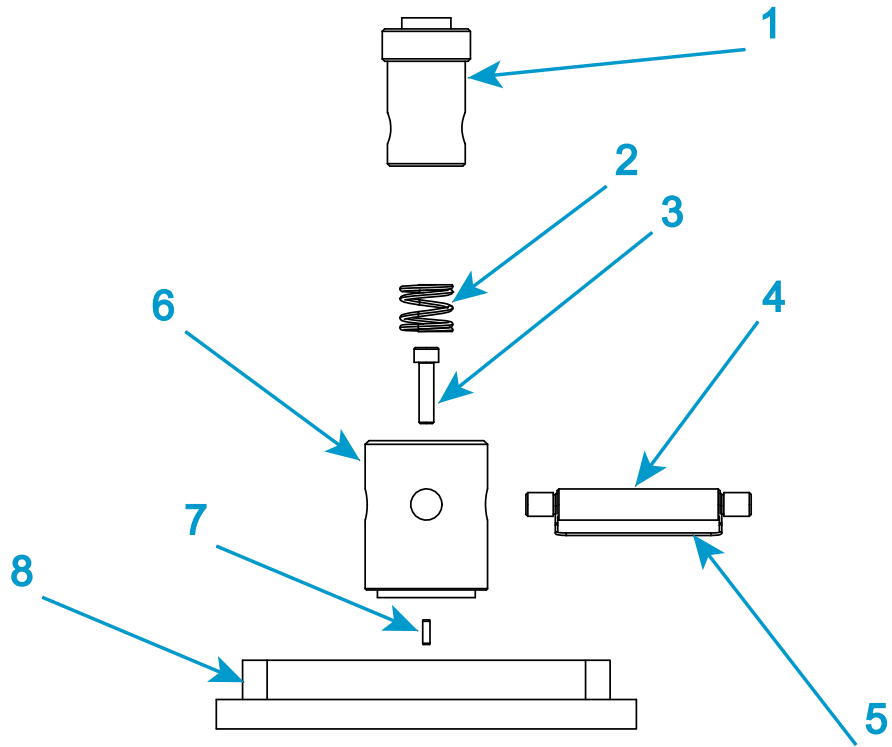

Figure 18. Type D base adapter
Legend for Figure 18
1. Only one anti-rotation pin is visible in Figure 18 because the second pin is lined up directly behind it.